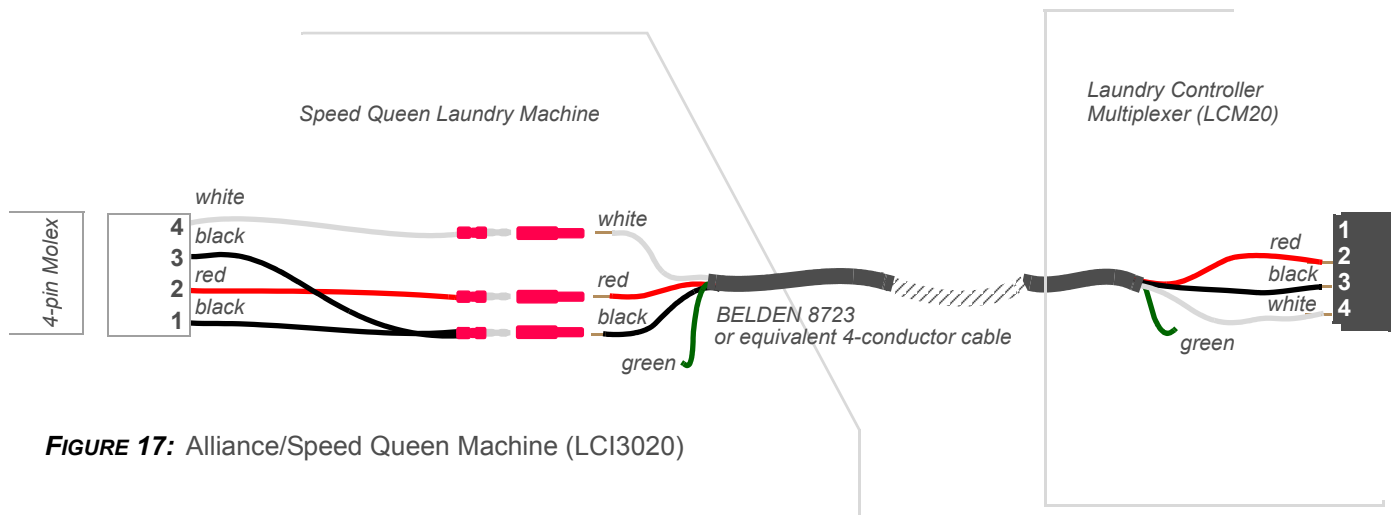

FIGURE 17: Alliance/Speed Queen Machine (LCI3020)
- 2 Route the 4-conductor cable from the LCM20 into the machine (see Figure 17).
- 5 Insert the four-pin Molex connector into the machine circuit board, as illustrated in Figure 17.